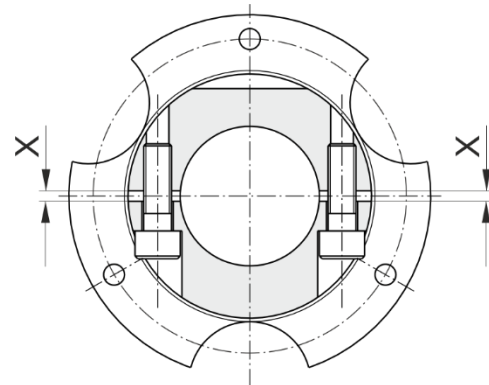

Fig. 7
- Please make sure that the gap "X" (Fig. 7) has the same size on both hub sides.